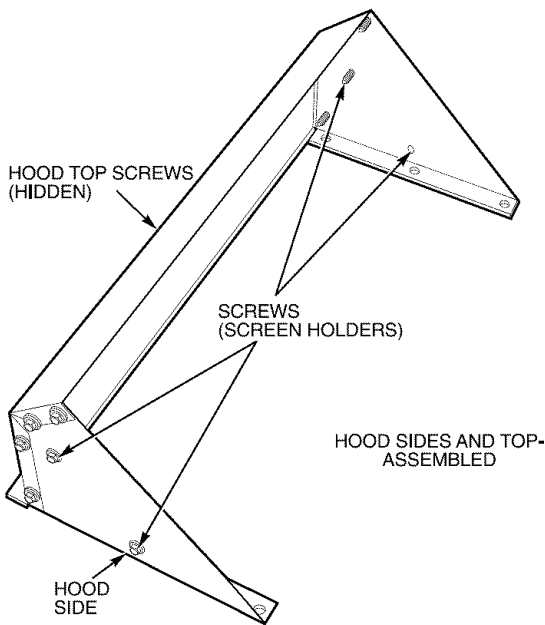
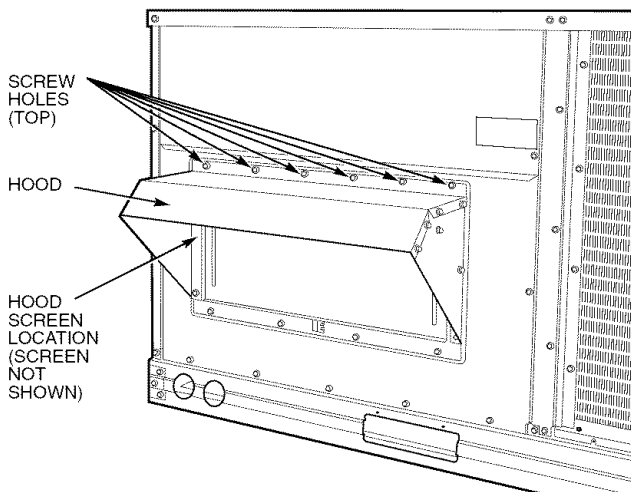

Fig. 12 — Outdoor-Air Hood Details
Fig. 13 — Optional Manual Outdoor-Air Damper with Hood Attached
- Place the hood on the front of the outdoor air opening panel. See Fig. 12 for hood details. Secure the top of the hood with the 6 screws removed in Step 3. See Fig. 13.
- Align the screw holes on the hood with the screw holes on the side of the manual outdoor-air damper. See Fig. 12 and 13. Secure the hood with the 8 screws from Step 6.
- Remove and save the screws currently on the sides of hood. Insert the screen. Secure the screen to the hood using the screws. See Fig. 13.